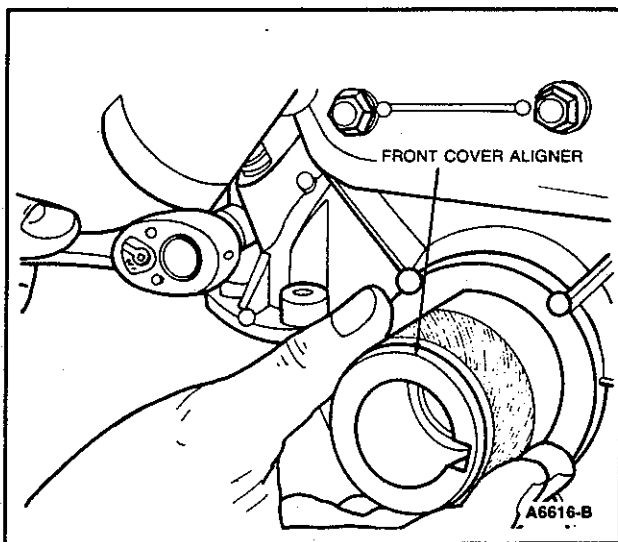

Figure 58 Cylinder Front Cover — Alignment
10. Coat the threads of the attaching screws with oil resistant sealer and install the screws. While pushing in on the alignment tool, tighten the oil pan to cover attaching screws to specifications (Figure 58). Tighten the cover to block attaching screws to specifications. Remove the pilot.